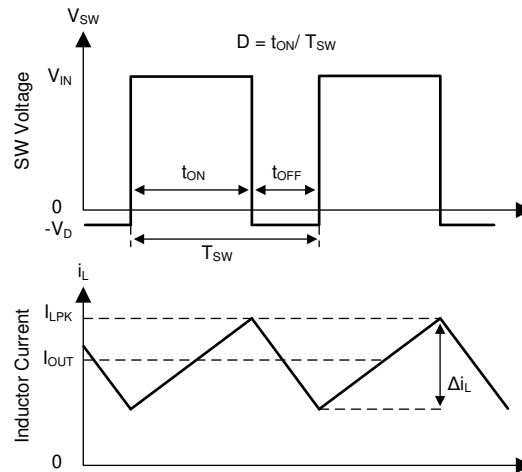

图 10. SW Node and Inductor Current Waveforms in Continuous Conduction Mode
The following operation description of the LM76002-Q1/LM76003-Q1 refers to the Functional Block Diagram and to the waveforms in Figure 10. The LM76002-Q1/LM76003-Q1 supplies a regulated output voltage by turning on the internal high side (HS) and low side (LS) NMOS switches with varying duty cycle (D). During high-side switch on-time  $t_{ON}$ , the SW pin voltage  $V_{SW}$  swings up to approximately  $V_{IN}$ , and the inductor current  $i_L$  increase with linear slope. The HS switch is off by the control logic. During the HS switch off-time,  $t_{OFF}$ , the LS switch is turned on. Inductor current discharges through the LS switch, which forces the  $V_{SW}$  to swing below ground by the voltage drop across the LS switch. The regulator loop adjusts the duty cycle to maintain a constant output voltage. The control parameter of buck converter is defined as duty cycle  $D = t_{ON} / t_{SW}$ . In an ideal buck converter, where losses are ignored, D is proportional to the output voltage and inversely proportional to the input voltage:  $D = V_{OUT} / V_{IN}$ .